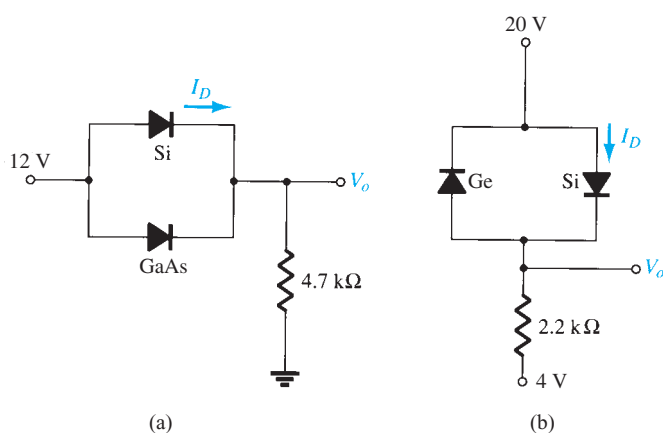

FIG. 2.160
10. Determine V_o and I_D for the networks of Fig. 2.160.